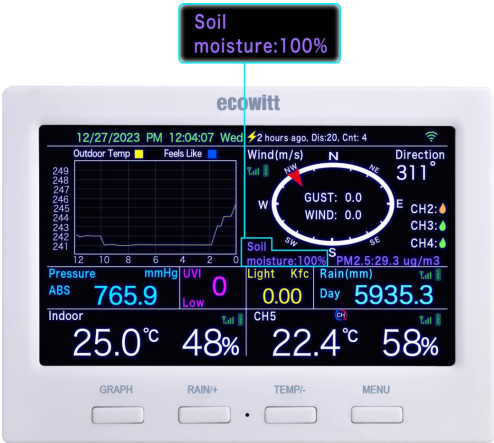

Figure 38: Data on Main Dashboard of HP3500
- Soil moisture data will be looped playback on the main dashboard of HP3500, like the Figure 38.